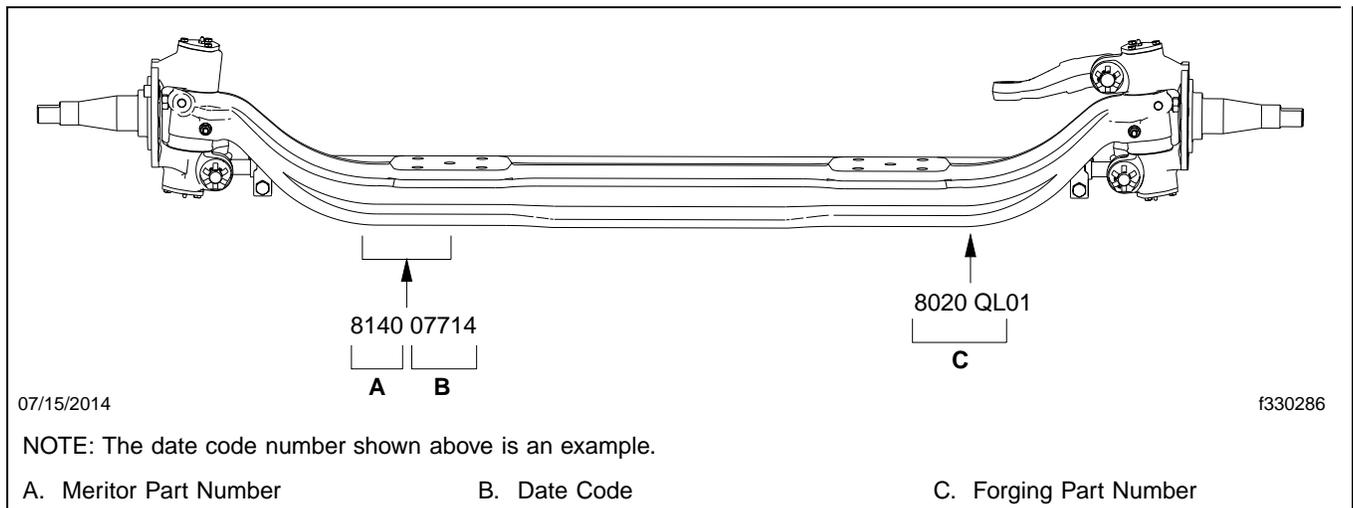

Fig. 1, Meritor Axle Beam Identification
3. Find and record the following verification information to determine the axle beam identification. See **Fig. 1**.